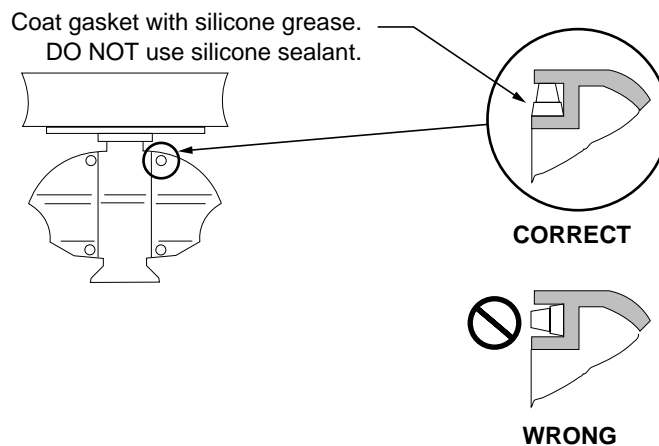

Figure 2-5 Correct seating of waterproofing gasket
13. Confirm that all screws are tightened and all wiring is properly made. Coat waterproofing gasket, bolts and tapping holes of scanner unit with silicone grease. Check that the waterproofing gasket is seated as shown in Figure 2-5. Close the scanner unit cover.